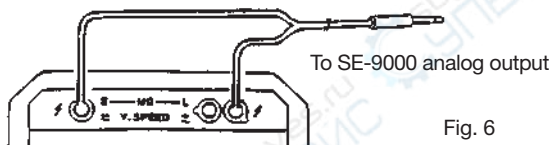

Fig. 6
2. As shown in Figure 6, connect optional cable of SE-9000 (speed meter), positive red plug to the right side of L terminal, and negative black plug to E terminal.